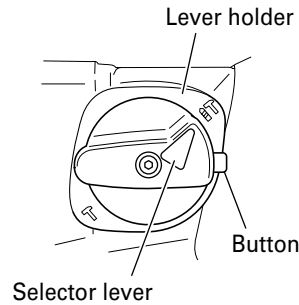

Fig. 6
- (1) Switching to “rotation + hammering”
- (b) Align ▲ of the selector lever and ◀ of the lever holder as illustrated in Fig. 6.